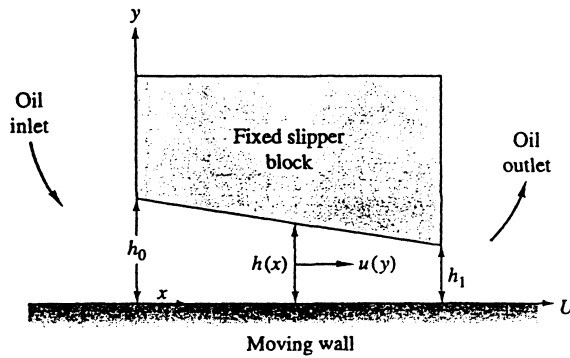

Fig. P4.83
**4.83** The flow pattern in bearing lubrication can be illustrated by Fig. P4.83, where a viscous oil ( $\rho, \mu$ ) is forced into the gap  $h(x)$  between a fixed slipper block and a wall moving at velocity  $U$ . If the gap is thin,  $h \ll L$ , it can be shown that the pressure and velocity distributions are of the form  $p = p(x)$ ,  $u = u(y)$ ,  $v = w = 0$ . Neglecting gravity, reduce the Navier-Stokes equations (4.38) to a single differential equation for  $u(y)$ . What are the proper boundary conditions? Integrate and show that